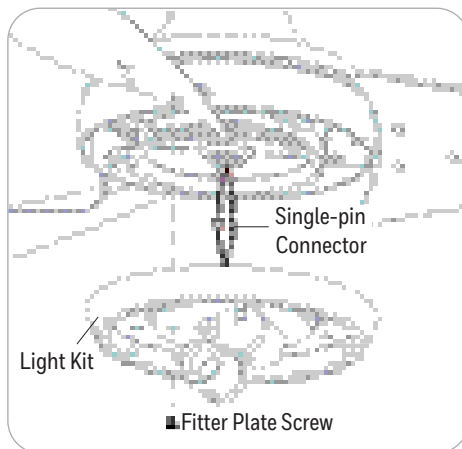

Figure 6.5
5. Remove one of the three fitter plate screws preassembled to the fitter plate and loosen the other two but do not remove. Connect the single-pin connector from the fitter plate to the single-pin connector from the light kit -- blue to black and white to white. Then, align the slotted holes in the light kit with the loosened screws in the fitter plate. Turn light kit clockwise and replace the previously removed fitter plate screw. Tighten all screws (Figure 6.5).